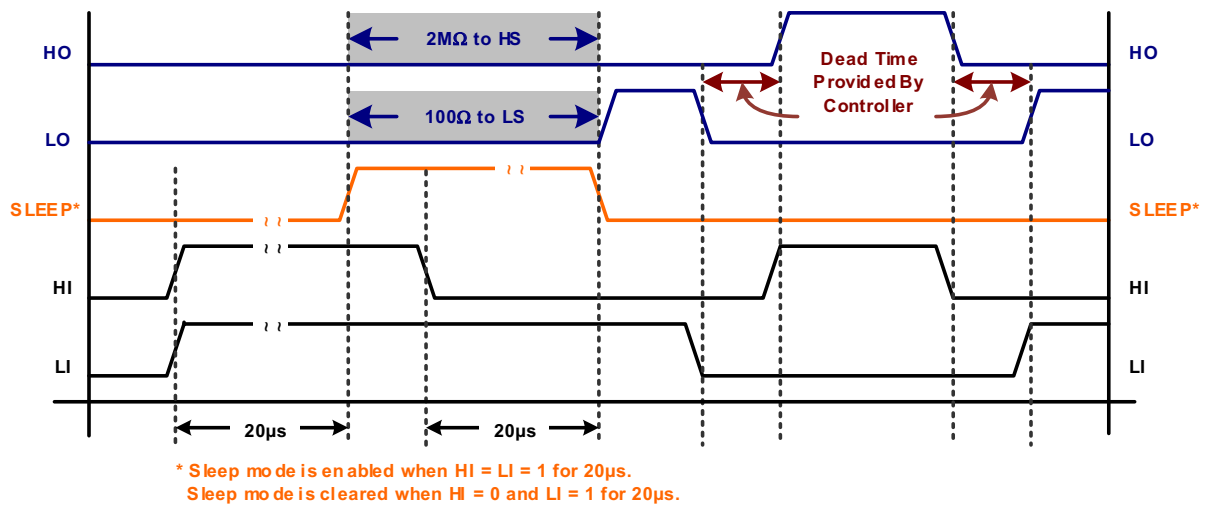

Figure 7. Sleep Mode Enabled or Cleared by HI and LI Inputs
16. When HI and LI are on simultaneously, HO and LO are never on simultaneously. This feature is intended to initiate sleep. This feature cannot be used to prevent shoot-through for normal alternating switching between LI and HI. Dead time must be provided when HI = 0 -> LI = 1, or LI = 0 -> HI = 1. See Timing Diagrams (Figure 7 on page 13).